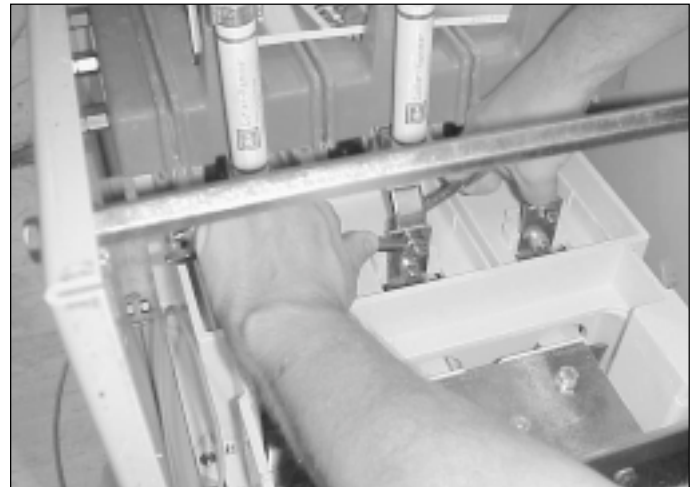

Fig. 20
1. Remove bolt securing the line bus to the lower terminal (Figure 20).